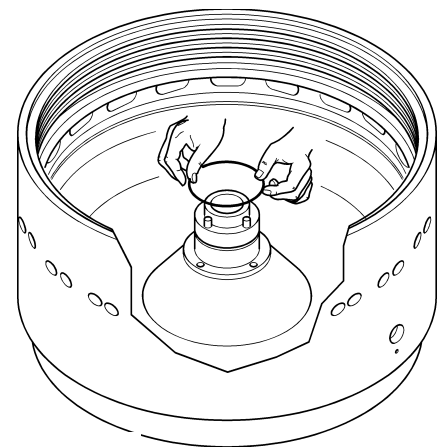

Figure 6.3
- 2) Carefully clean the groove of bowl hub and insert the OR gasket (Fig. 6.3).